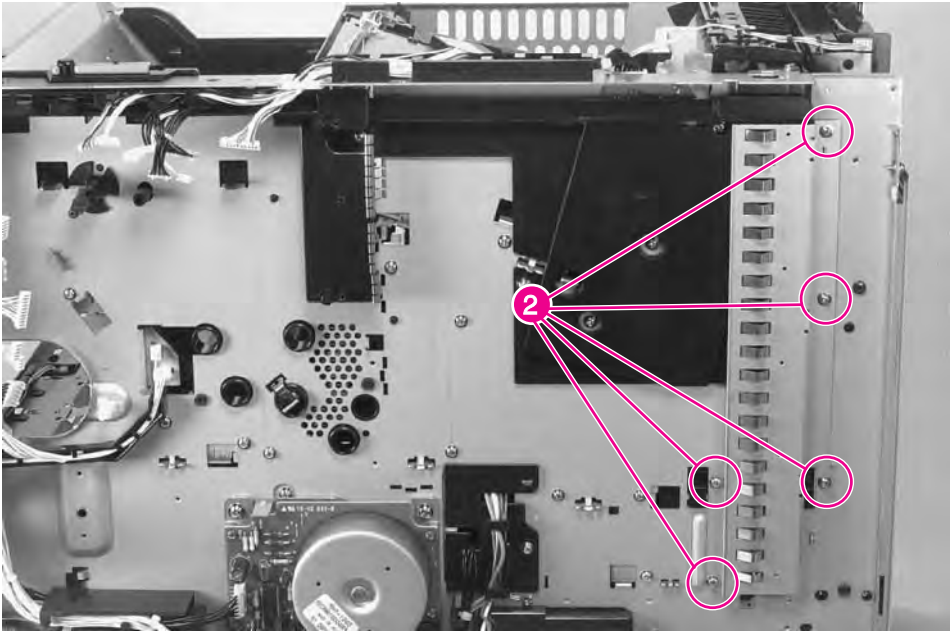

Figure 6-43 Output Paper Sensor PCA (2 of 4)
- 3** Remove 5 screws (figure 6-43, callout 2), and remove the Formatter PCA grounding strip.